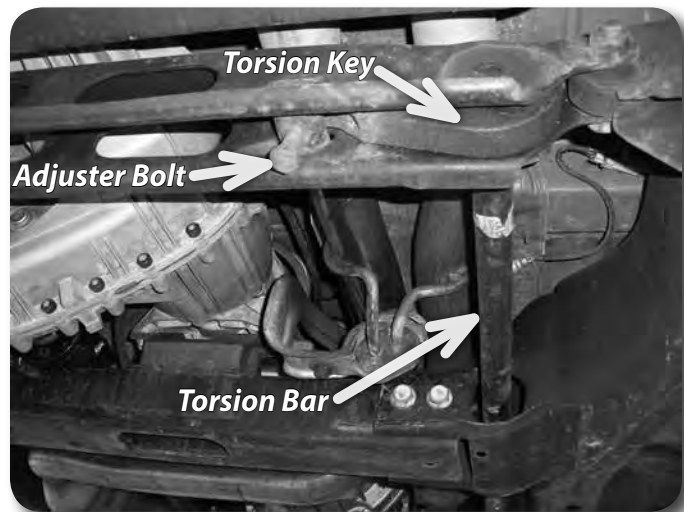

Figure 1
3. Raise the front of the vehicle with a hydraulic jack. Support the frame rails with jackstands. **Figure 1**